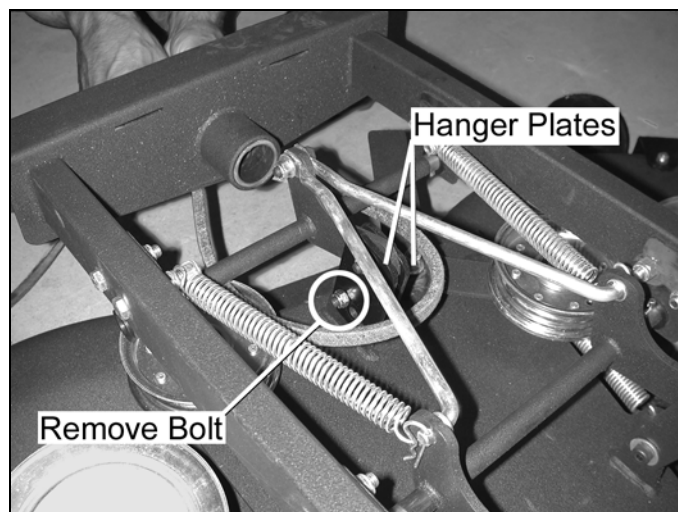

Figure 10
5. Remove the lower bolt on the rear hanger plates (*Figure 10*). Swing the hanger plates out of the way so the belt clears. Remove the belt.